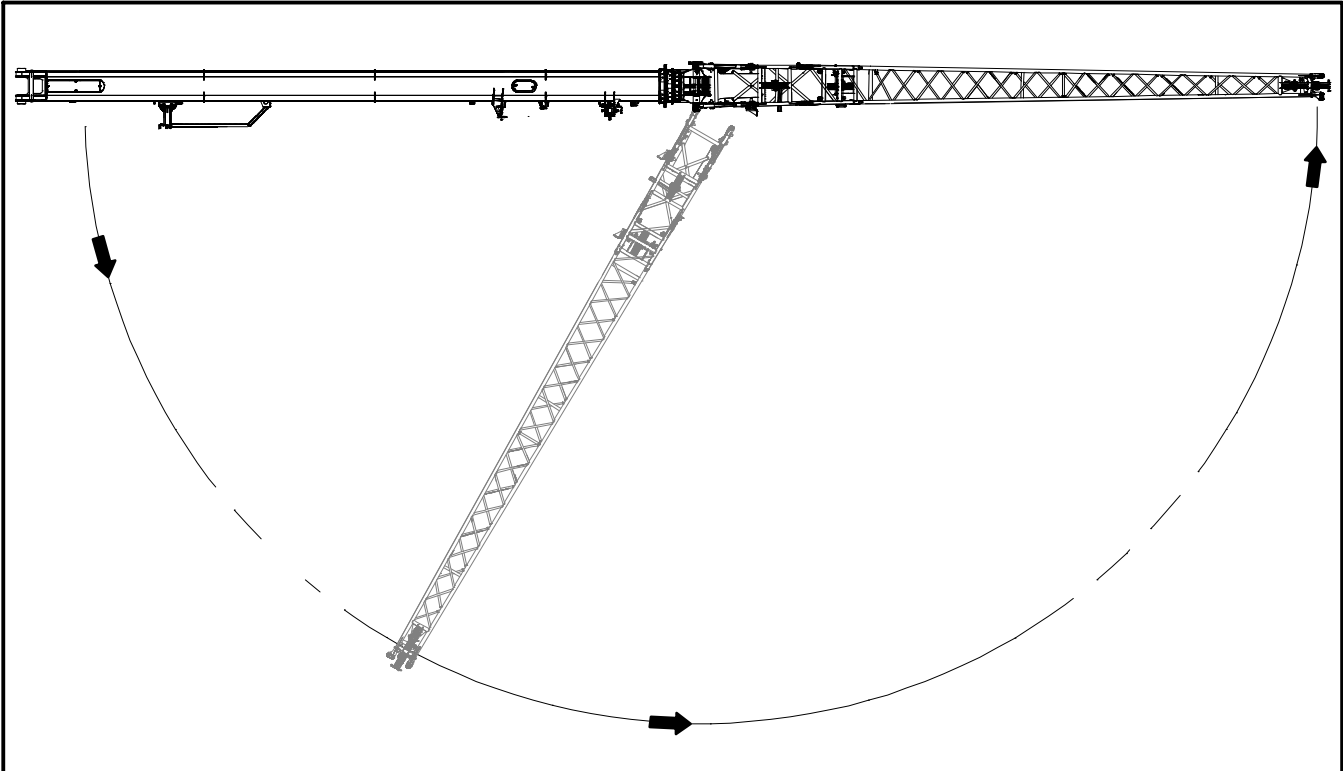

Figure 4–91
8. Pull down the retaining pin (1) to disengage the pin from the bullet lug on the 10 ft (3.0m) fly storage bracket. Refer to Figure 4–89. Rotate and release the retaining pin to lock it in the disengaged position (3).
9. Pull the retaining pin (2) to disengage the pin from the bullet lug (1) on the 28 ft (8.5m) fly storage bracket. Refer to Figure 4–90. Rotate and release the retaining pin to lock it in the disengaged position (3).
11. Slowly boom down to allow the fly to swing out slightly from the storage brackets and then fully retract the boom. Refer to Figure 4–91.
12. Continue to lower the boom to 0° angle to swing the fly base around the boom head until the fly lugs engage with the boom head machinery cross shafts on the left side of the boom. Refer to Figure 4–91.